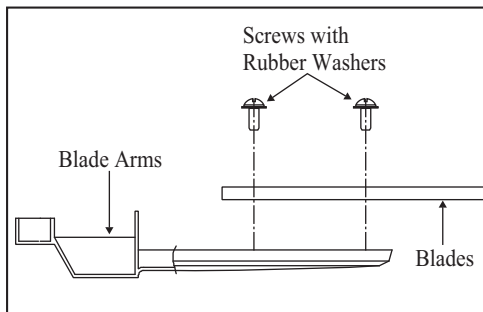

Figure 8
1. Attach blades to blade arms using three screws with rubber washers. (Fig. 8) Start a screw into the blade arm, do not tighten. Repeat for the 2 remaining screws and washers.